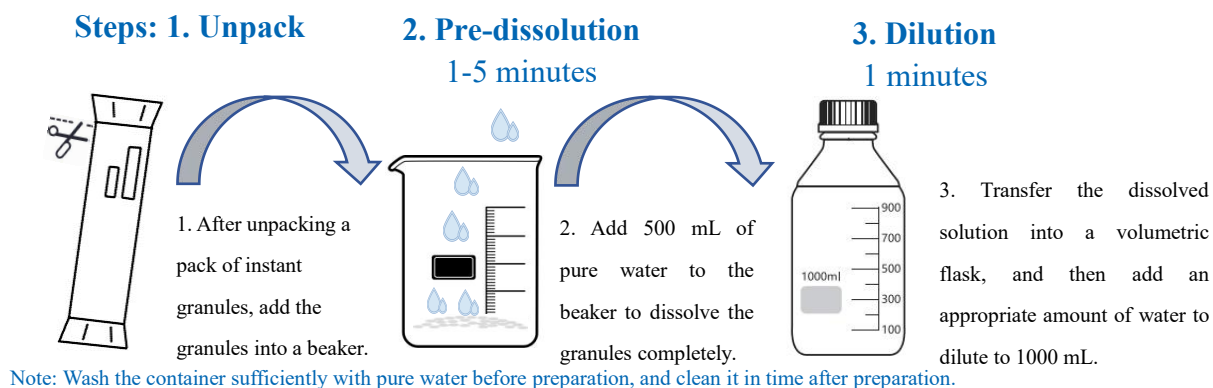

Figure 1. Schematic Diagram of Instant Buffer Preparation
a. Configure 1 \times TAE buffer as figure 1.